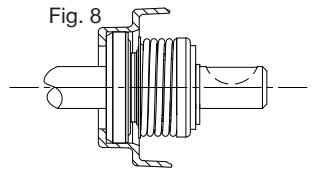

Fig. 8
3. The washer (item C) can then be placed on the shaft and the whole assembly held into position by locating the Circlip (item D) in the groove and pushing it into position (Fig. 8)